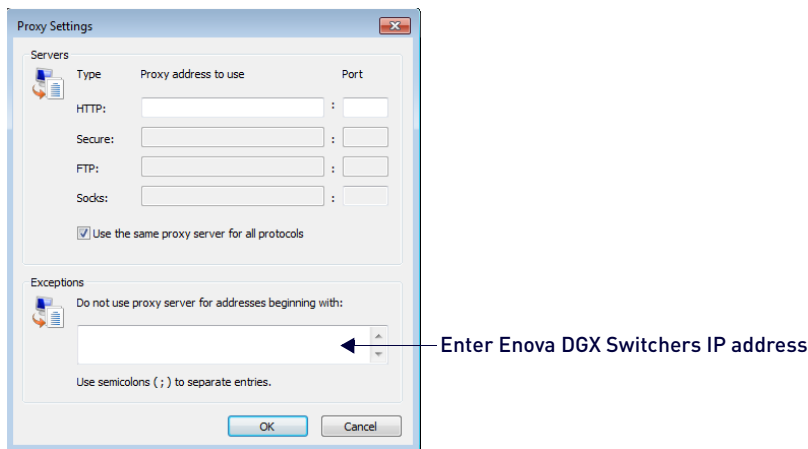

FIG. 127 Proxy Settings dialog
3. Click **Advanced**. The *Proxy Settings* dialog opens (FIG. 127):